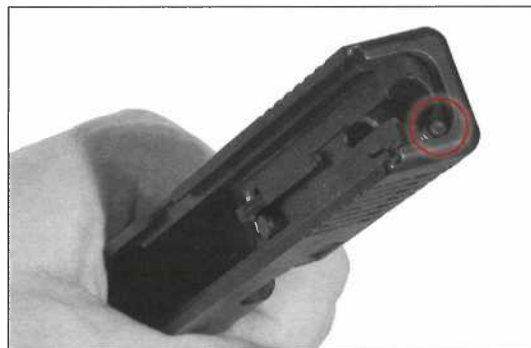

Fig. 28
- Remove the extractor depressor plunger assembly by lifting it upwards. This assembly is made up of three parts: the extractor depressor plunger, extractor depressor spring and spring loaded bearing. (Fig. 28/29)